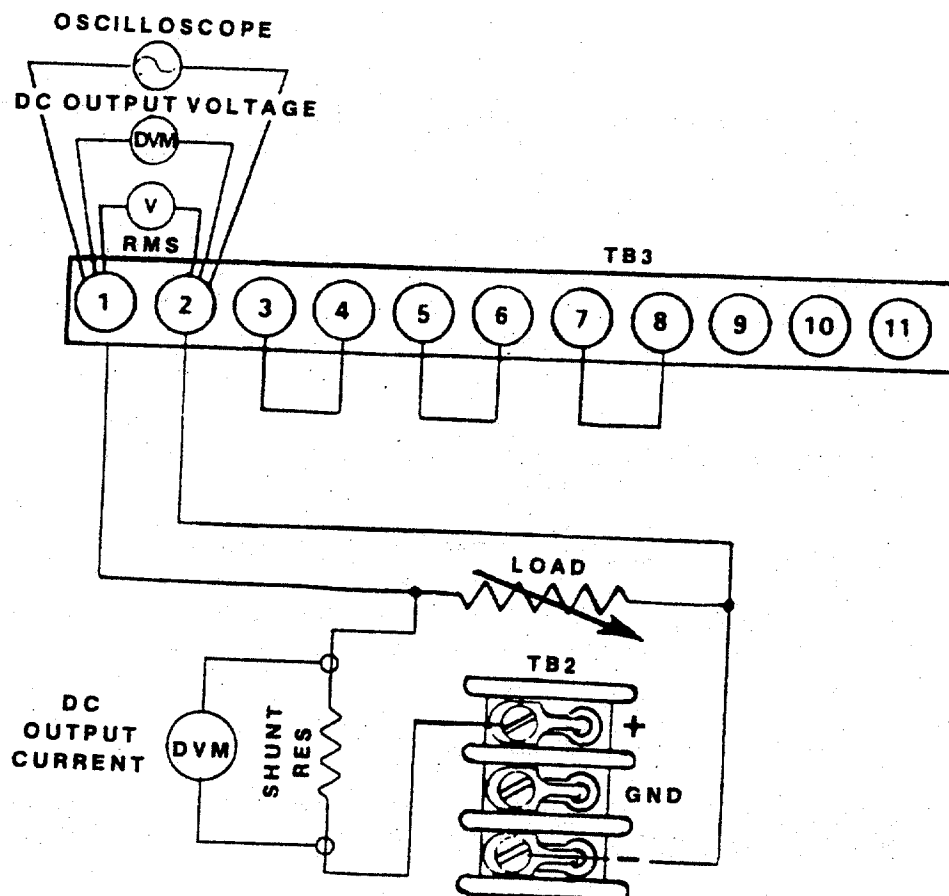

Figure 5-1 Performance Test Setup
1. Connect a sensitive digital voltmeter and an RMS ac voltmeter across unit output terminals per Figure 5-1. Select a current shunt per Table 52 with a DVM for current output readings.